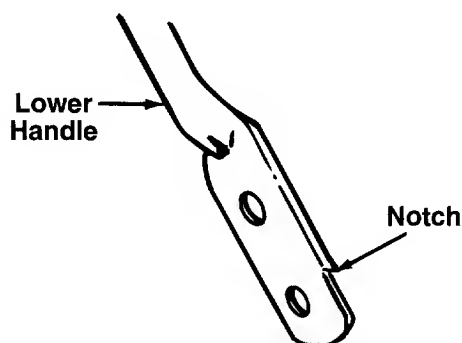

FIGURE 12.
- Turn the lower handle around so the notch on the bottom of the lower handle is facing forward as shown in figure 12. Reassemble, placing the bottom holes in the handle over the weld pins in the handle mounting bracket.